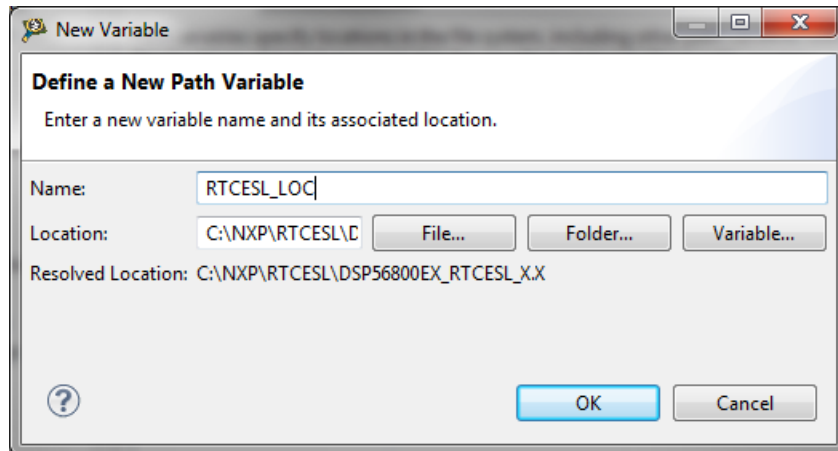

Figure 1-7. New variable
4. In the dialog that appears (see Figure 1-7), type this variable name into the Name box: RTCESL_LOC